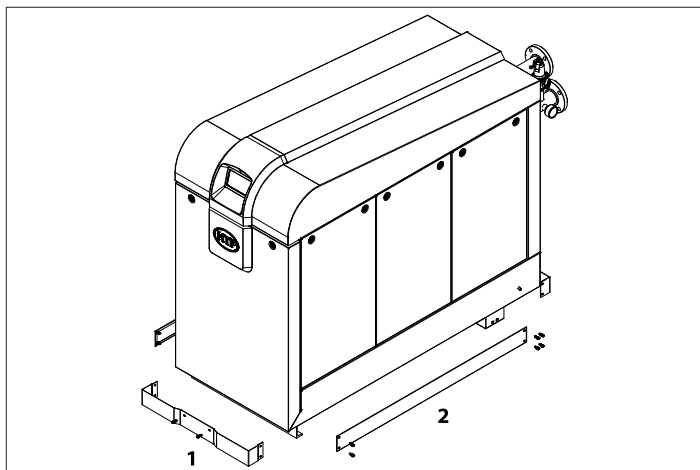

Figure 5 - 1500 - 2000 Models - Installing Decorative Skirts
1500 - 2000 Models ONLY - After the boiler has been installed level in the final location the decorative skirts may be installed. These can be found in the boiler cabinet. Use the included bolts to install the front skirt (1) before proceeding to the side skirts (2). See Figure 5.